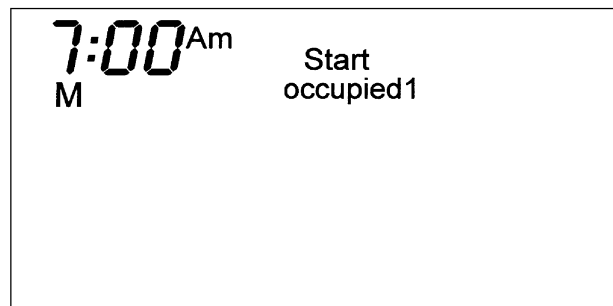

Fig. 6 — Start Time Display
7. The Start Time for Occupied 1 will be displayed. Use the UP ARROW and DOWN ARROW buttons to raise or lower the time until the desired Start Time is shown. Press the Mode button to continue. See Fig. 6.